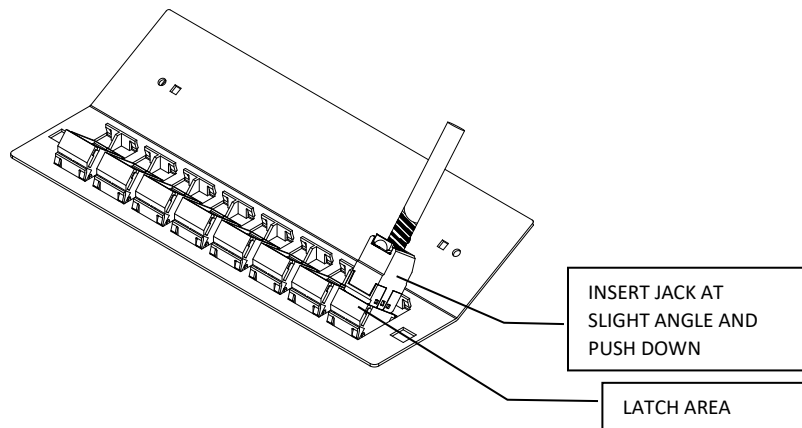

Fig. 34
6. Slide in jack into module port opening at slight angle (see Fig. 34)
8. Snap jack into module fascia by pushing down on top of jack (see Fig. 34)